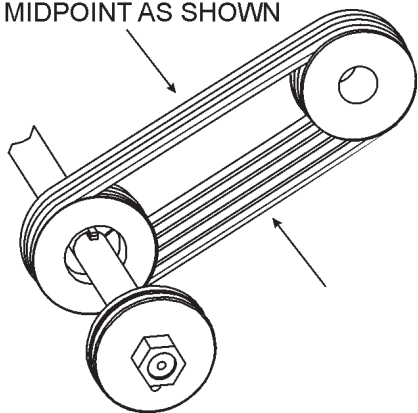

Figure 17. V-Belt Tension
3. Check V-belt tension (Figure 17) by using a tensionmeter (6.0 - 9.0 lbs.) against the inside belt at a mid point between the two pulleys, or by deflecting the center belt at a mid point 3/8" (10 mm) - 1/2" (13 mm).